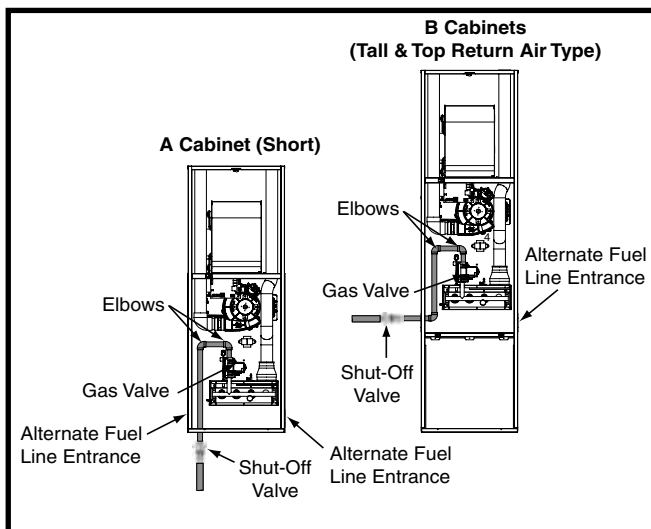

Figure 17. Typical Gas Connections
- Some local regulations require the installation of a manual main shut-off valve and ground joint union external to the furnace as shown in Figure 17 (page 18). The shut-off valve should be readily accessible for service and/or emergency use. Consult the local utility or gas supplier for additional requirements regarding placement of the manual main gas shut-off.
The furnace is installed with a bottom gas entry. When connecting the gas supply, provide clearance between the gas supply line and the entry hole in the furnace casing to avoid unwanted noise and/or damage to the furnace. Typical gas hookups are shown in Figure 17.